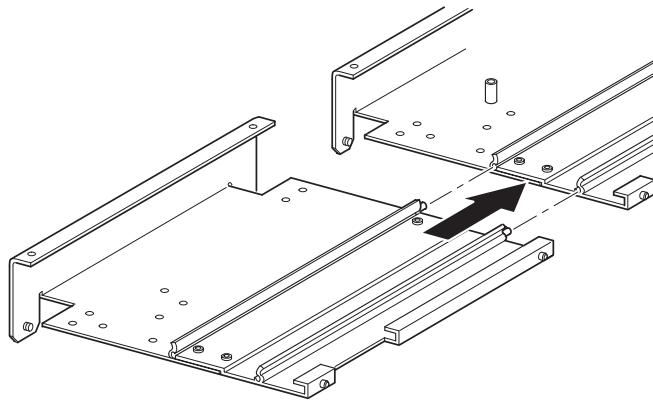

Figure 75. Cartridge elevator extension alignment
- a. Insert alignment pins of the extension to the slot at the bottom of the primary chassis as shown in Figure 75.